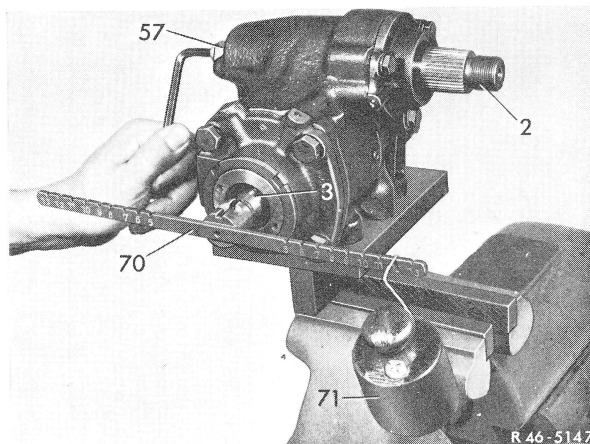

Fig. 37
37 Adjust pressure mechanism of pitman shaft by turning adjusting screw (47) to the right until the friction torque has increased by 40 – 60 Ncm (4–6 kpcm) (Fig. 37).